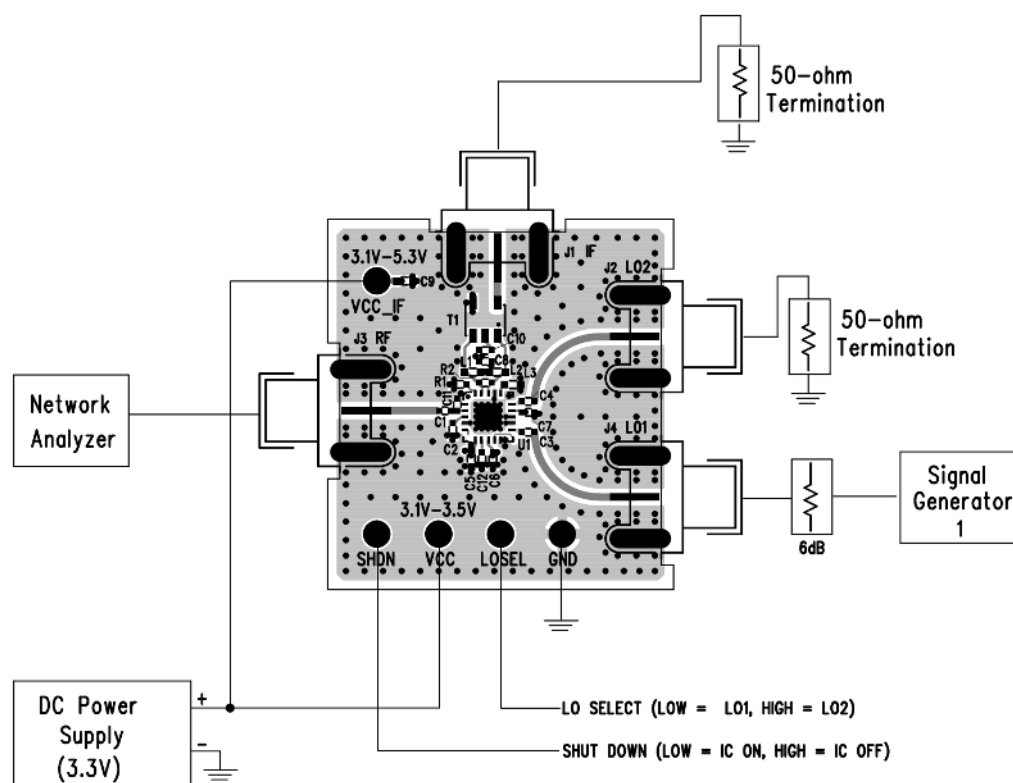
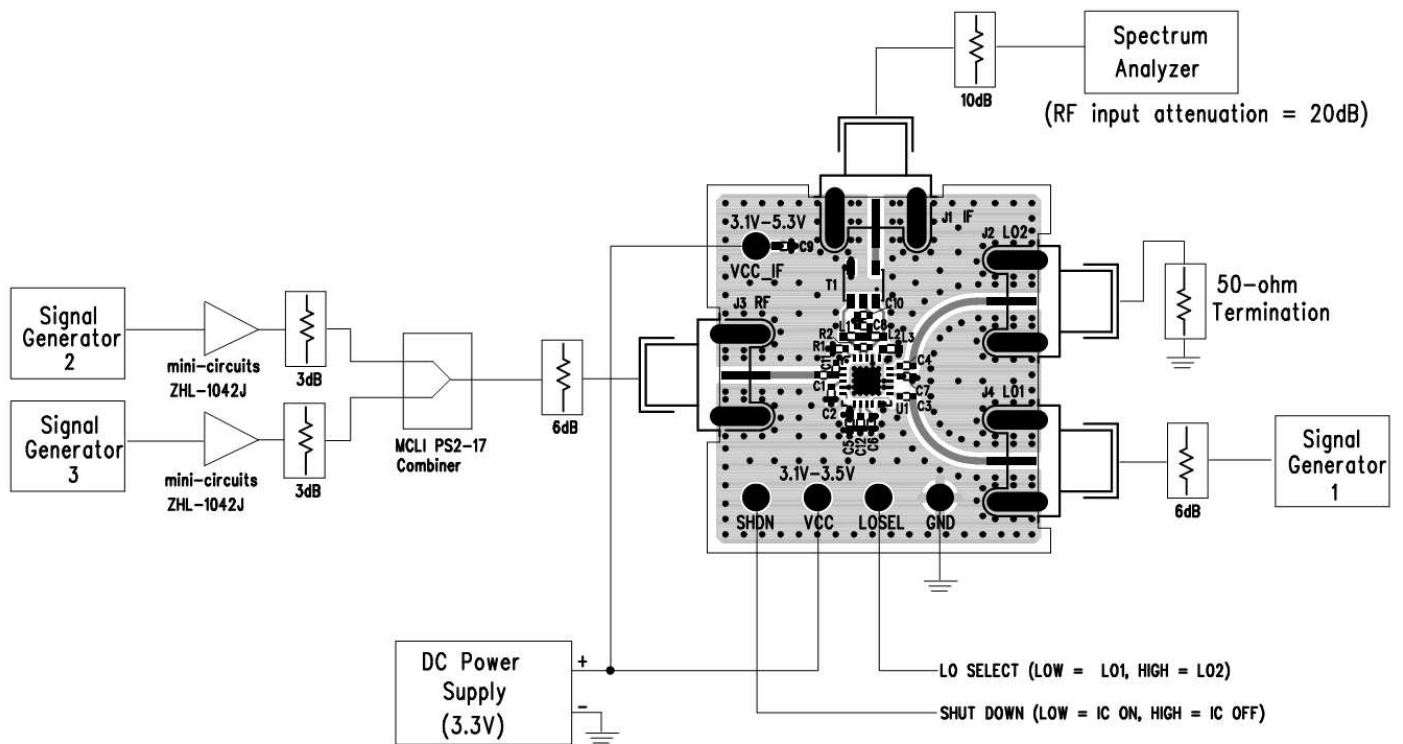
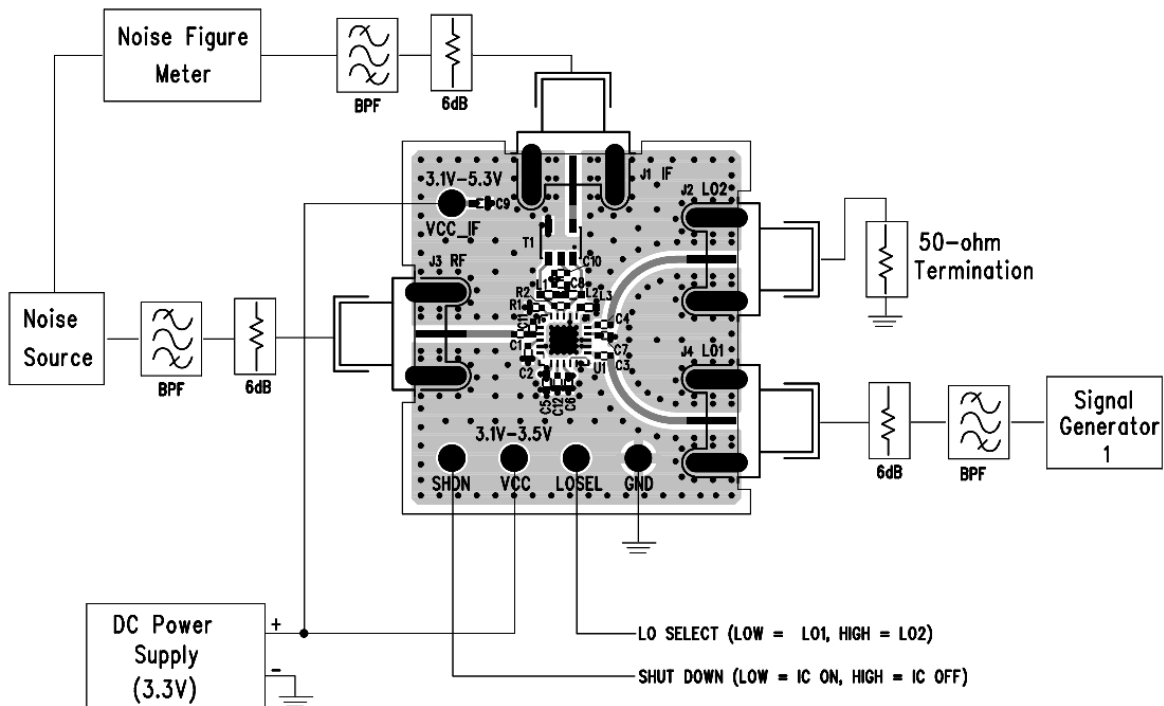

Figure 5. Proper Equipment Setup for Return Loss Measurements
Figure 6. Proper Equipment Setup for RF Performance Measurements
Figure 7. Proper Equipment Setup for Noise Figure Measurement
The LTC5542 is a high dynamic range downconverting mixer IC with very high input 3rd order intercept. Accuracy of its performance measurement is highly dependent on equipment setup and measurement technique. The recommended measurement setups are presented in Figure 5, Figure 6, and Figure 7. The following precautions should be observed:
The LTC5542 consists of a high linearity passive double-balanced mixer core and IF buffer amplifier. Due to the bi-directional nature of all passive mixers,  $\text{LO}\pm\text{IF}$  mixing product is always present at the RF input, typically at a level of 12dB below the RF input signal. If the  $\text{LO}\pm\text{IF}$  "Pseudo-Image Spur" is not properly terminated, it may interfere with the source signals, and can degrade the measured linearity and noise figure significantly. To avoid interference from the  $\text{LO}\pm\text{IF}$  "Pseudo-Image Spur", terminate the RF input port with an isolator, diplexer, or attenuator. In the recommended measurement setups presented in Figure 6 and Figure 7, the 6dB attenuator pad at the demonstration circuit's RF input serves this purpose.
Demonstration circuit 1431A-C is easy to set up to evaluate the performance of the LTC5542. Refer to Figure 5, Figure 6, and Figure 7 for proper equipment connections and follow the procedure below:
3. Connect all test equipment as shown in Figure 5 with the signal generator and the DC power supply turned off.
1. Connect all test equipment as shown in Figure 6 with the signal generators and the DC power supply turned off.
2. Connect all test equipment as shown in Figure 7 with the signal generator and the DC power supply turned off.